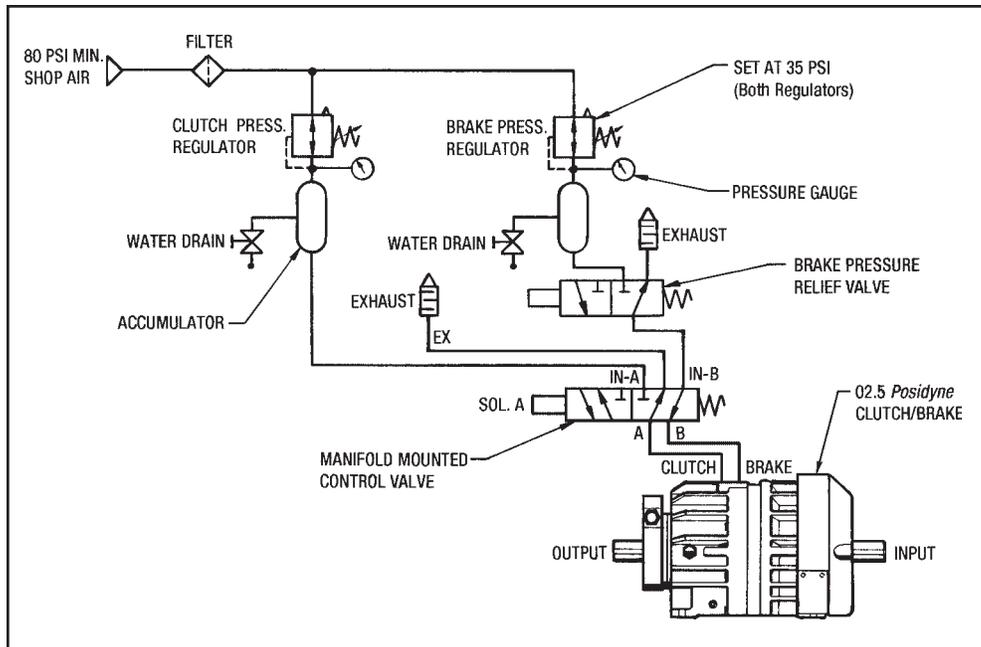

Figure 1.4 - Pneumatic Diagram
The air supply system consists of (2) accumulator tanks furnished with separate regulators and water drains, a manifold mounted valve and brake release valve. The incoming air supply should be maintained at a minimum of 80 PSIG of clean dry air. With this application the, *Posidyne* Clutch/Brake operates best at a pressure of 35 PSIG for both the Clutch and Brake. One accumulator is for the clutch, the other for the brake. From the accumulator the clutch air is connected directly to the manifold mounted valve. From the accumulator, the brake air is connected to a normally closed brake release valve. When the brake release valve is de-energized, the brake air pressure is exhausted to allow the Starwheels to be rotated manually. (See Figure 1.4)
(See *Figures 1.4 and 7.2*)